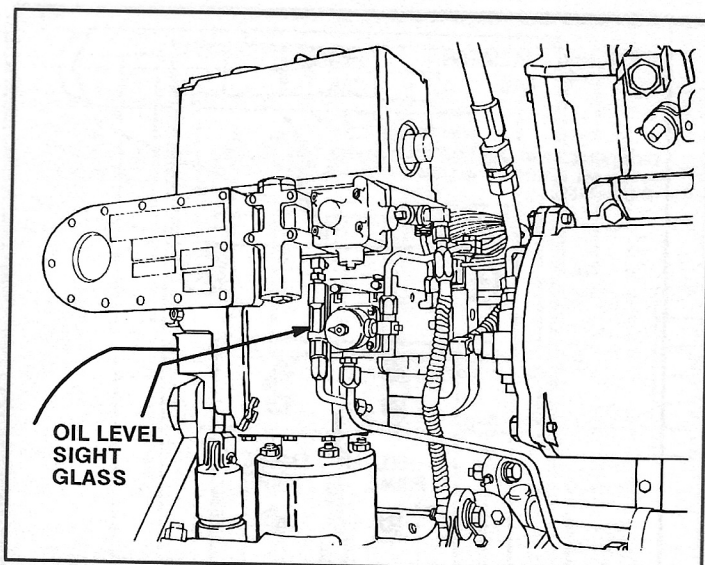

FIG. 31. ENGINE CONTROL GOVERNOR. E-32793A.
## DIESEL ENGINE CONTROL GOVERNOR (Fig. 31)
5. Governor Oil–Level Sight Glass – Located on the left side of the engine near the traction alternator (Fig. 31). Oil level must be visible at mark on the sight glass when the engine is running at idle.